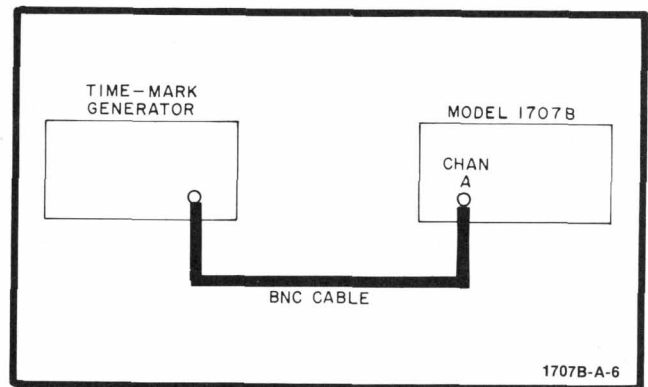

Figure 5-9. Delay Time Accuracy Test Setup
a. Connect instruments as shown in figure 5-9.